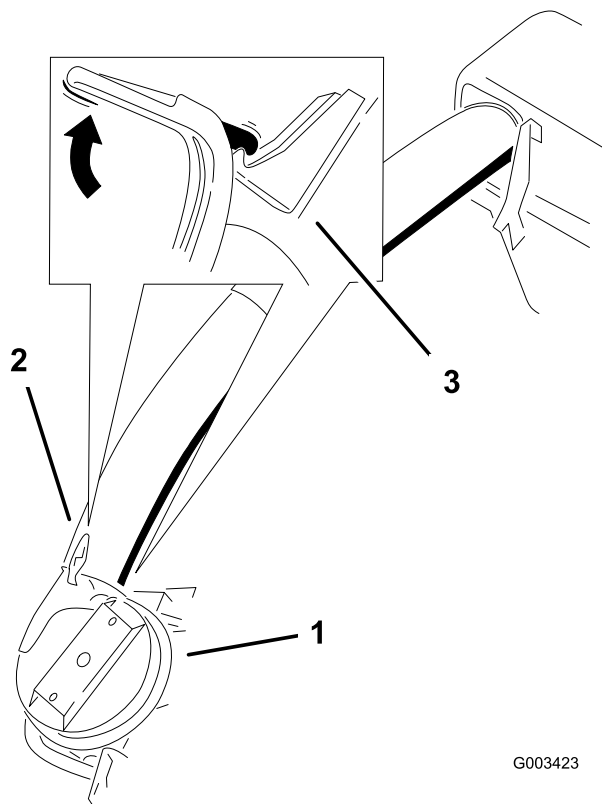

Figure 24
9. Slide the lower tube onto the boot and latch them together (Figure 24).